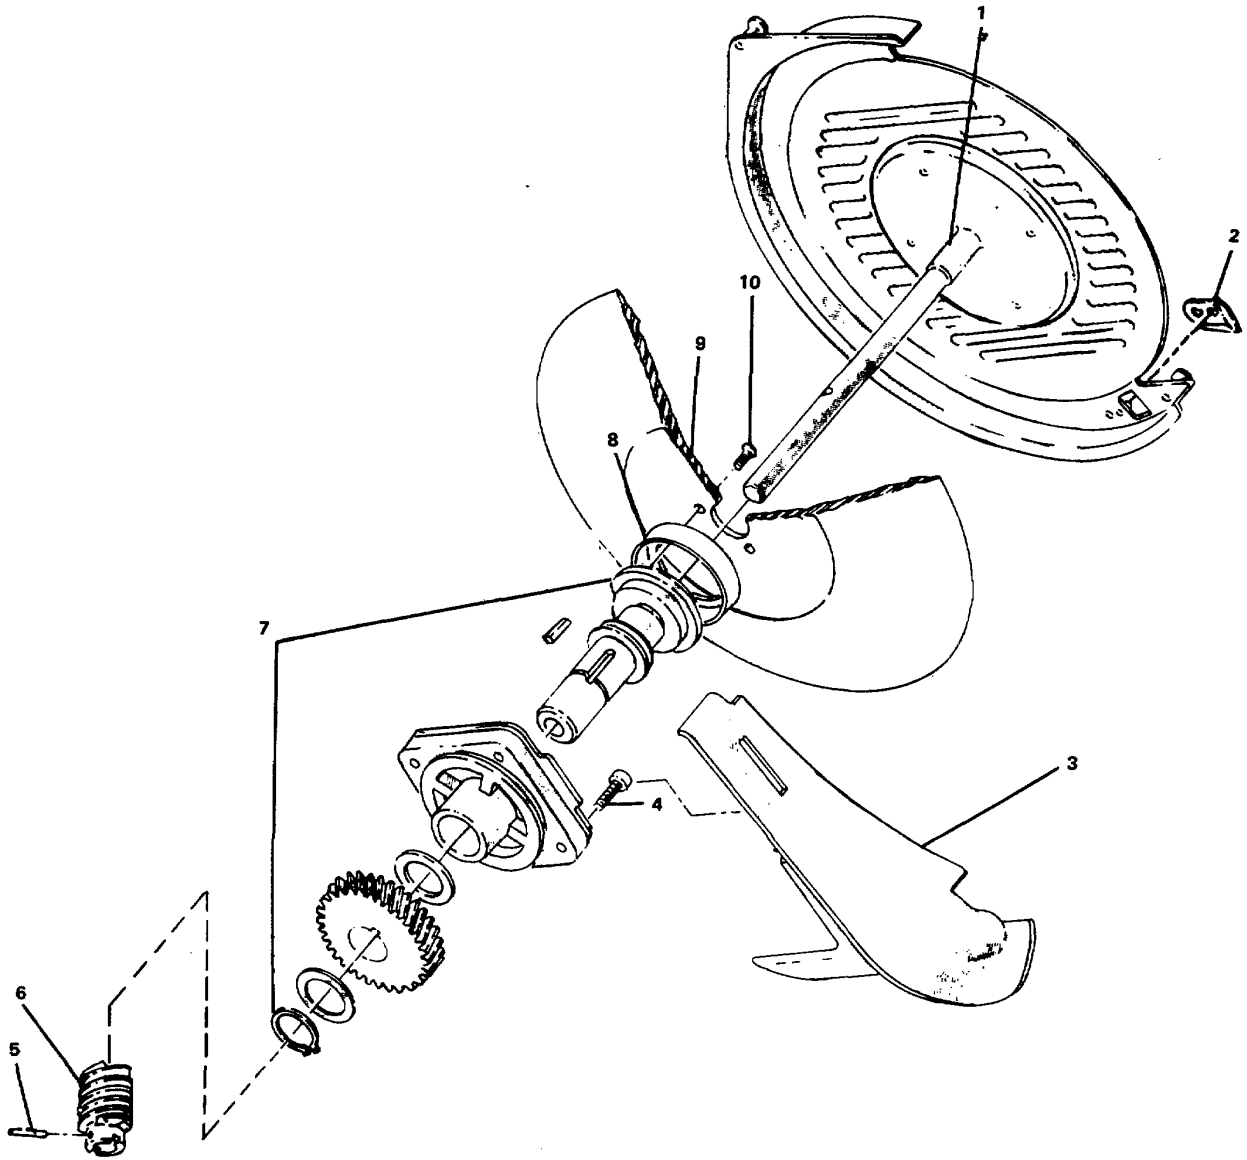

FIGURE 3-72. Replace Knife Unit Assembly.
**3-70. Repair Knife Unit Assembly. (Figure 3-72)**